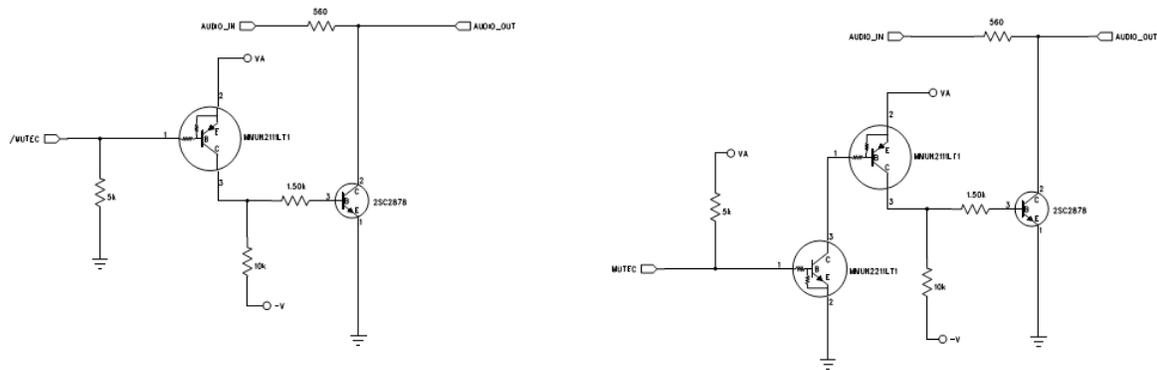

Figure 14. Recommended Mute Circuitry
**Figure 14**. shows a single example of both an active-high and an active-low mute drive circuit. In these designs, the pull-up and pull-down resistors have been specifically chosen to meet the input high/low threshold when used with the MMUN2111 and MMUN2211 internal bias resistances of 10 kΩ.
The DSD\_PM\_EN bit (Reg. 09h) selects Phase Modulation (data plus data inverted) as the style of data input. In this mode, the DSD\_PM\_mode bit selects whether a 128Fs or 64x clock is used for phase modulated 64x data (see Figure 14). Use of phase modulation mode may not directly affect the performance of the M9000, but may lower the sensitivity to board-level routing of the DSD data signals.